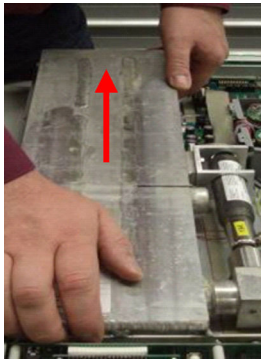

Fig. 90: Pulling out the tank
15. ▶ Lift up the tank in the rear section and carefully pull it out towards the rear (Fig. 90).